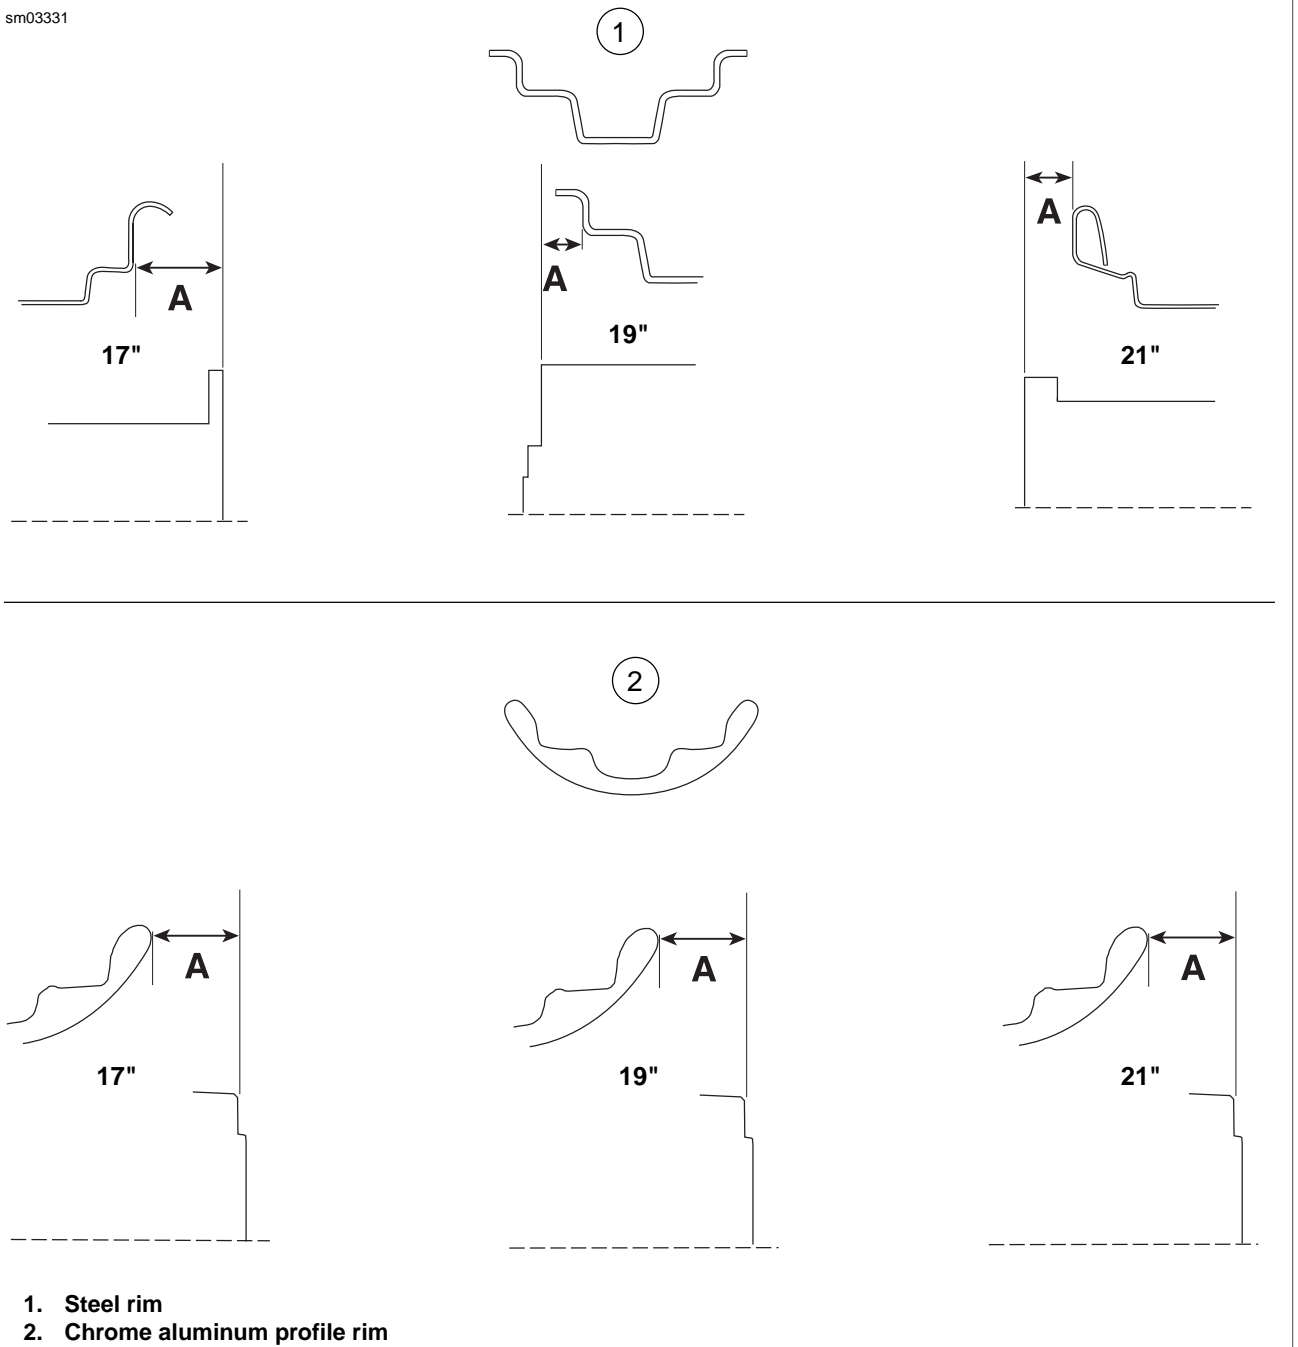

Figure 2-53. Laced Wheel Hub Offset Dimensions
3. See Figure 2-53 and Table 2-14. Lay a straightedge across hub brake disc flange and one of the marked spoke groups. Measure distance "A" from the straightedge to the location as shown.